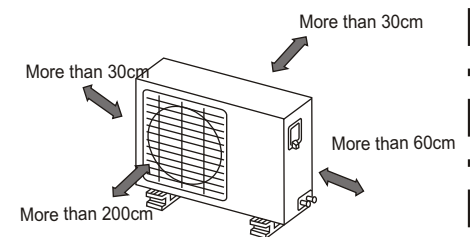

Fig.2
- Do not allow plants or animals to interfere with the path of the air from the inlet or outlet of the unit, see Fig.2. The air inlets and outlets must not be obstructed.